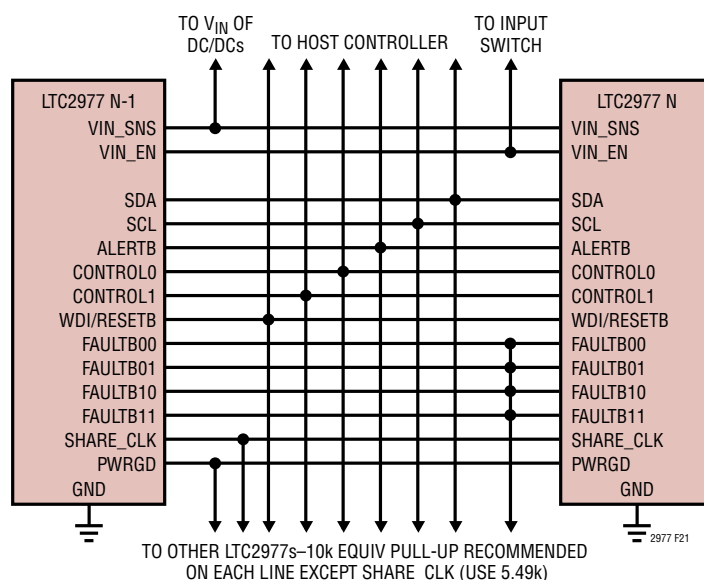

Figure 21. Typical Connections Between Multiple LTC2977s
Figure 21 shows how to interconnect the pins in a typical multi-LTC2977 array.
- The FAULTBn lines can be connected together to create fault dependencies. Figure 21 shows a configuration where a fault on any FAULTBn will pull all others low. This is useful for arrays where it is desired to abort a start-up sequence in the event any channel does not come up (see Figure 22).